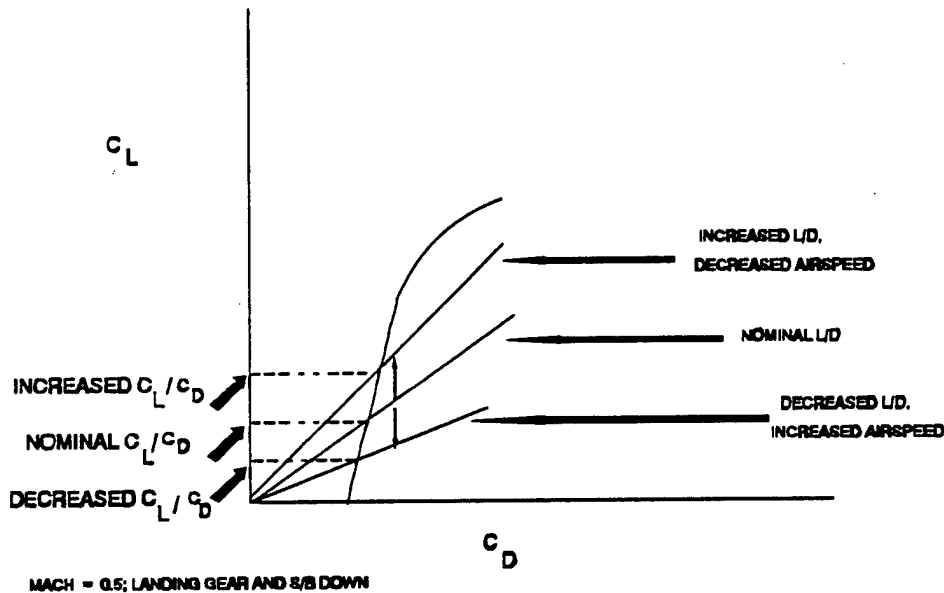

FIGURE 3
e. An alternate method of varying L/D is adjustment of the velocity profile as shown in Figure 3. In this case, airspeed is varied to control L/D instead of changes in drag (thrust for T-38A). For example, as airspeed is increased, less C_L is required, the L/D ratio decreases, and the flight-path angle becomes steeper. This method is easier and more natural, but once the correct glidepath is obtained, another acceleration or deceleration is required to reestablish the original L/D.